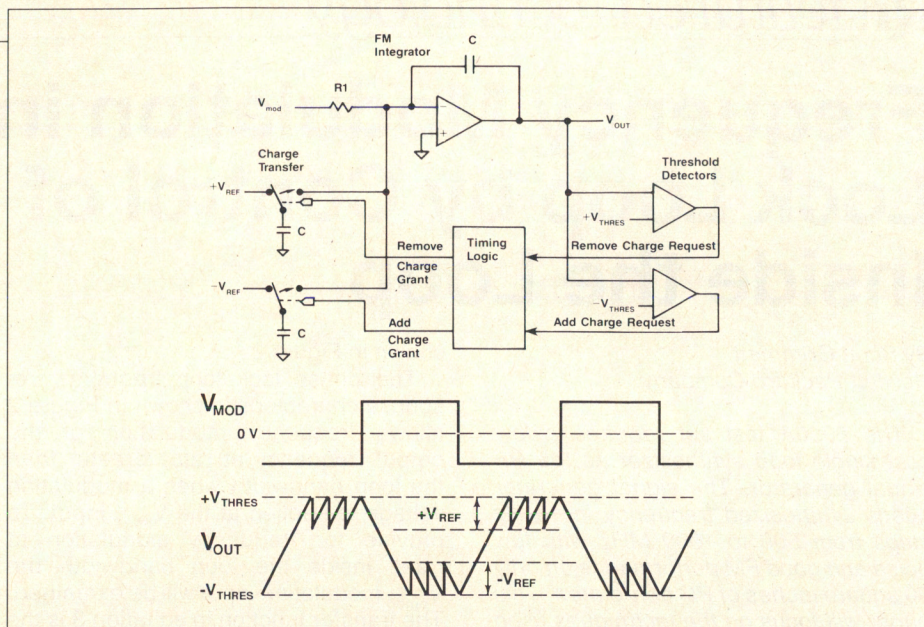

Figure 5. FM integrator reset circuit.
A description of how the integrator is reset follows. Figure 5 shows the circuit used to reset the integrator. A negative voltage applied to the integrator input causes the output of the integrator to ramp up. Once the integrator output crosses the threshold of the positive
detector, the comparator output is activated. The active output causes the timing logic to switch the phase transfer capacitor from the charging voltage (V_{ref}) to the integrator input. The positively charged capacitor removes a fixed amount of charge from the integrator. The result is a fixed voltage removed from the integrator output before the rail is reached. Both positive and negative threshold detectors and charge transfer capacitors are provided thus allowing the integrator to be reset when either a positive or negative voltage is applied at the input. An example of the integrator output with a square wave input is shown in Figure 5.
shows the loop N divider. The IC controls the divide modulus of the prescaler to set the effective divide number (N) of the loop. The IC takes the place of the timing logic in Figure 5. Control of the charge request inputs on the IC is done by the FM threshold detectors. When either the remove charge request or add charge request line is activated by the detectors, the IC removes a VCO cycle or adds a VCO cycle, respectively. In the next reference cycle after the request has occurred, the divider will remove or add the VCO cycle. During the same reference cycle, the IC activates the corresponding remove charge grant or add charge grant line to transfer the necessary charge at the FM integrator. Removing a VCO cycle causes the effective N to change to N+1 and adding a VCO cycle changes N to N-1 for one reference period.